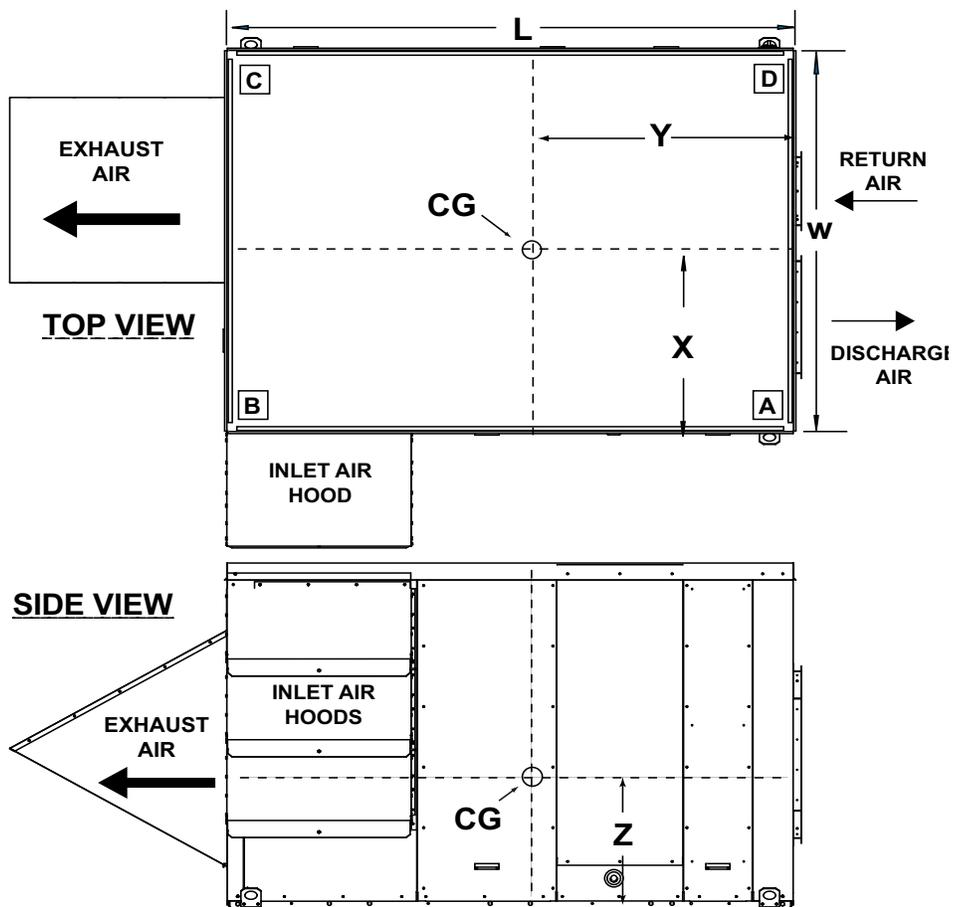

Figure 3. Unit Weights, Length, Width, and Center of Gravity
Unit weights are listed in Table 3 and shown in Figure 3.
**See Figure 3.